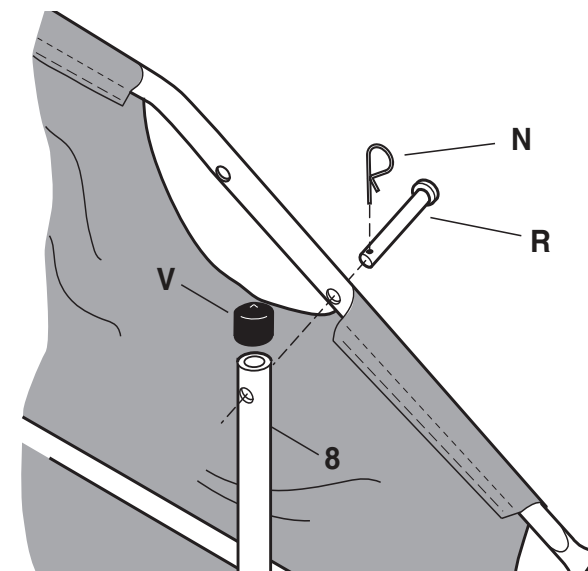

Figure 21
STEP 21: (SEE FIGURE 21)
- Attach the bag arm tubes (8) to each side of the hopper bag assembly using 3/8" x 2.25" clevis pins (R) and 3/32" hair cotter pins (N).
- Place vinyl caps (V) on top of the bag arm tubes (8).